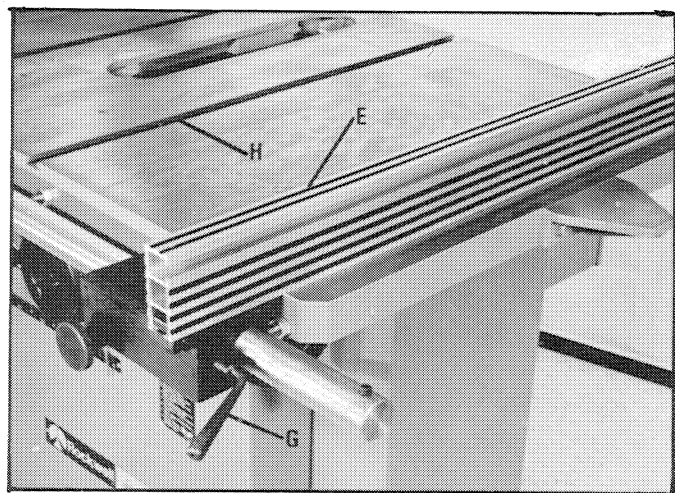

Fig. 19
5. Fig. 19 illustrates the fence (E) assembled to the fence body in the vertical position.
6. Push down on fence locking lever (G) Fig. 19, and move fence body until fence (E) is parallel with the miter gage slot (H).